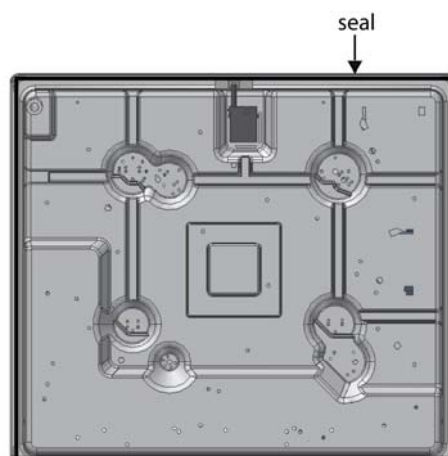

Fig. 8
3. Turn the hob upside down and stick the seal around the internal edge (Fig. 8).